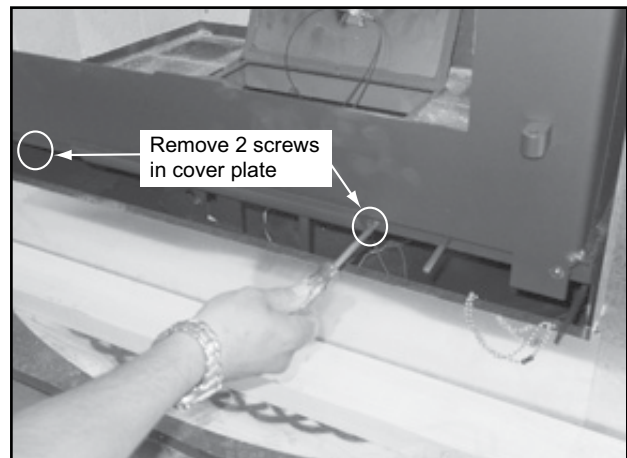
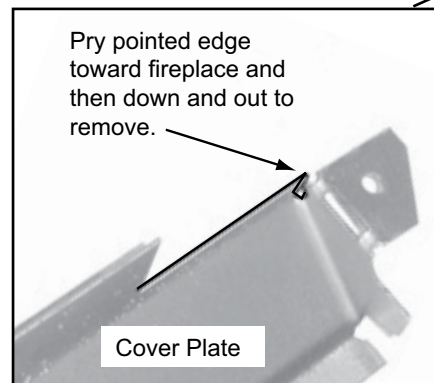

Figure 4.13
Figure 4.15
6. Remove 2 screws from cover plate & pull cover plate toward you. Figures 4.13 & 4.14. Use a flat head screwdriver to pry the corner edge loose. Pry toward the fireplace and then press down and out. Figure 4.15